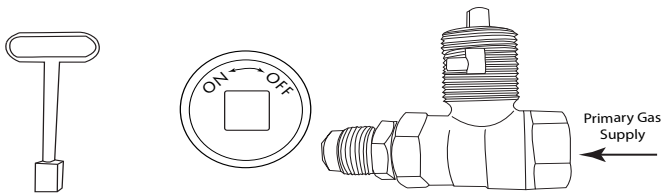

Fig. 19 Key valve components
The key valve contents: (1) key valve, (1) 12-inch key and (1) flange. See Fig. 19. The valve requires a 1¼" round clearance hole in the non-combustible enclosure wall. See the instructions supplied with the key valve for more specific details. **Note:** Be sure to leak test all fittings before operating.